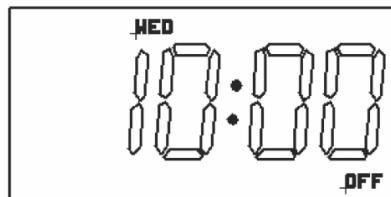

Figure B-21: Boost OFF
3. Pressing '-' (Boost) three times cancels the Boost ON period. Refer to Figure B-21.